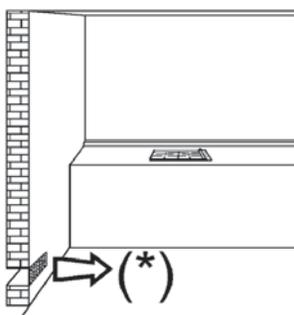
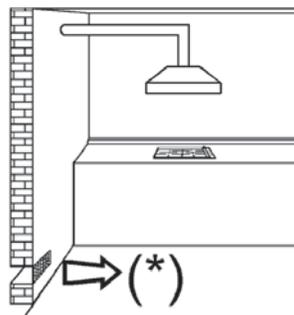
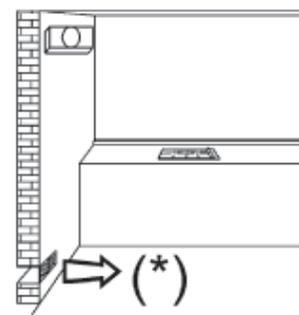

FIG. 3
FIG. 4
FIG. 5
- the use of a gas hob produces heat and humidity in the room where it is installed. Consequently, the room must be well aired, keeping natural ventilation openings free (fig. 3) and activating the mechanical aeration device (suction hood or electric fan fig. 4 and fig. 5).
Natural air flow must enter directly through permanent openings in the walls of the room in question. These must open towards the outside and possess a minimum section of 100 cm² (see fig. 3). It must be impossible to obstruct these openings. Indirect ventilation with air drawn from adjacent rooms is permitted in strict compliance with the provisions in force.
Gas cooking appliances must always dispose of their combustion fumes through hoods. These must be connected to flues, chimneys or straight outside (see fig. 4). If it is not possible to install a hood, an electric fan can be installed on a window or on a wall facing outside (see fig. 5). This must be activated at the same time as the appliance, so long as the specifications in the provisions in force are strictly complied with.